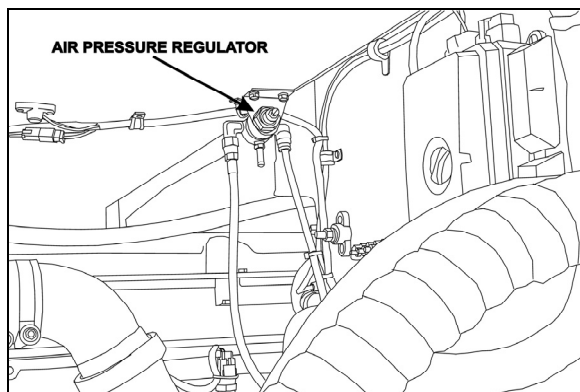

FIGURE 12: AIR PRESSURE REGULATOR (TYPICAL) 07037
20. Adjust the retarder pressure to  $80 \pm 3$  psi with the air pressure regulator. For more information refer to Section 12, "BRAKE AND AIR SYSTEM", under heading "AIR PRESSURE REGULATOR". The air pressure regulator is located in the engine compartment, above the rear junction box (Fig. 12).